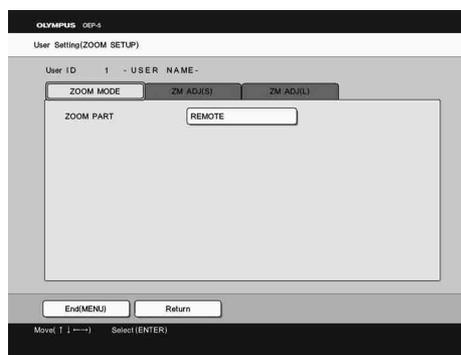

Figure 5.21
- 3 Press “◀” or “▶” to display the “ZOOM MODE” menu (see Figure 5.21).